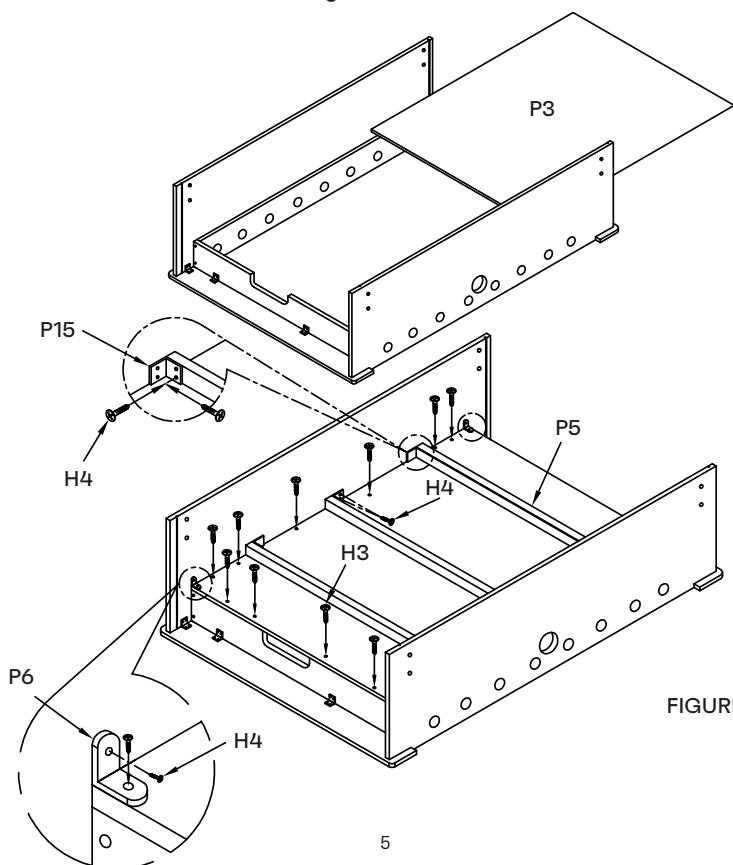

FIGURE 2
4. Set the playfield P3 onto the assembly and attach with screws H3 as shown in figure 2. Place the playfield support braces on the bottom of the playfield. Attach the braces using brackets P15 and screws H4. As shown in figure 2. Attach the bracket P6 to the side panels and the playfield with screws H4 as shown in figure 2.